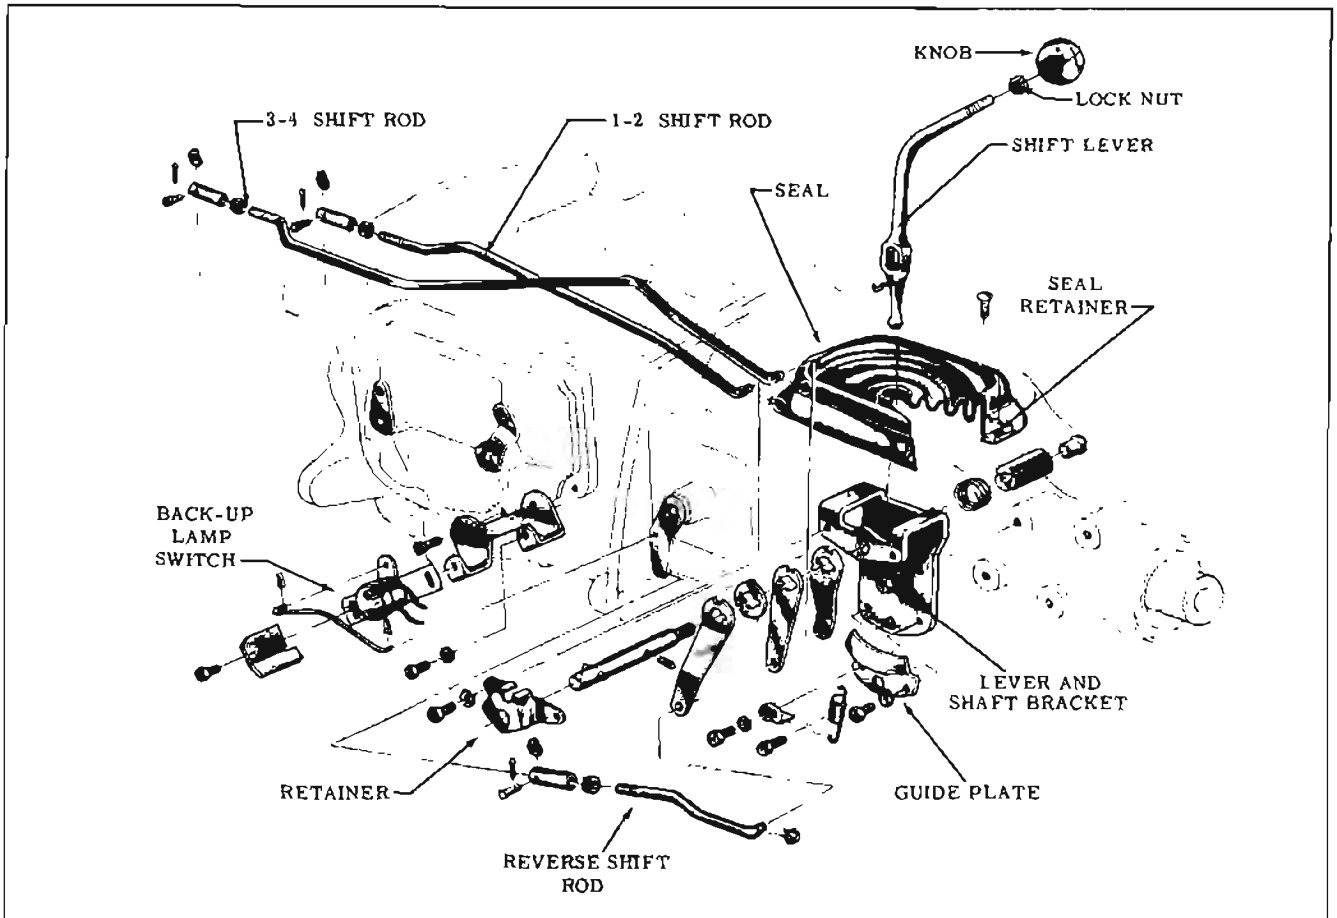

Fig. 11-259 Gear Shift Assembly
### DISASSEMBLY (Figs. 11-259 & 260)
1. Remove the two retainer bolts and the retainer. (Fig. 11-259)
#### ASSEMBLY (Figs. 11-259 & 260)
5. Install the retainer and the two attaching bolts. (Figs. 11-259 & 260)